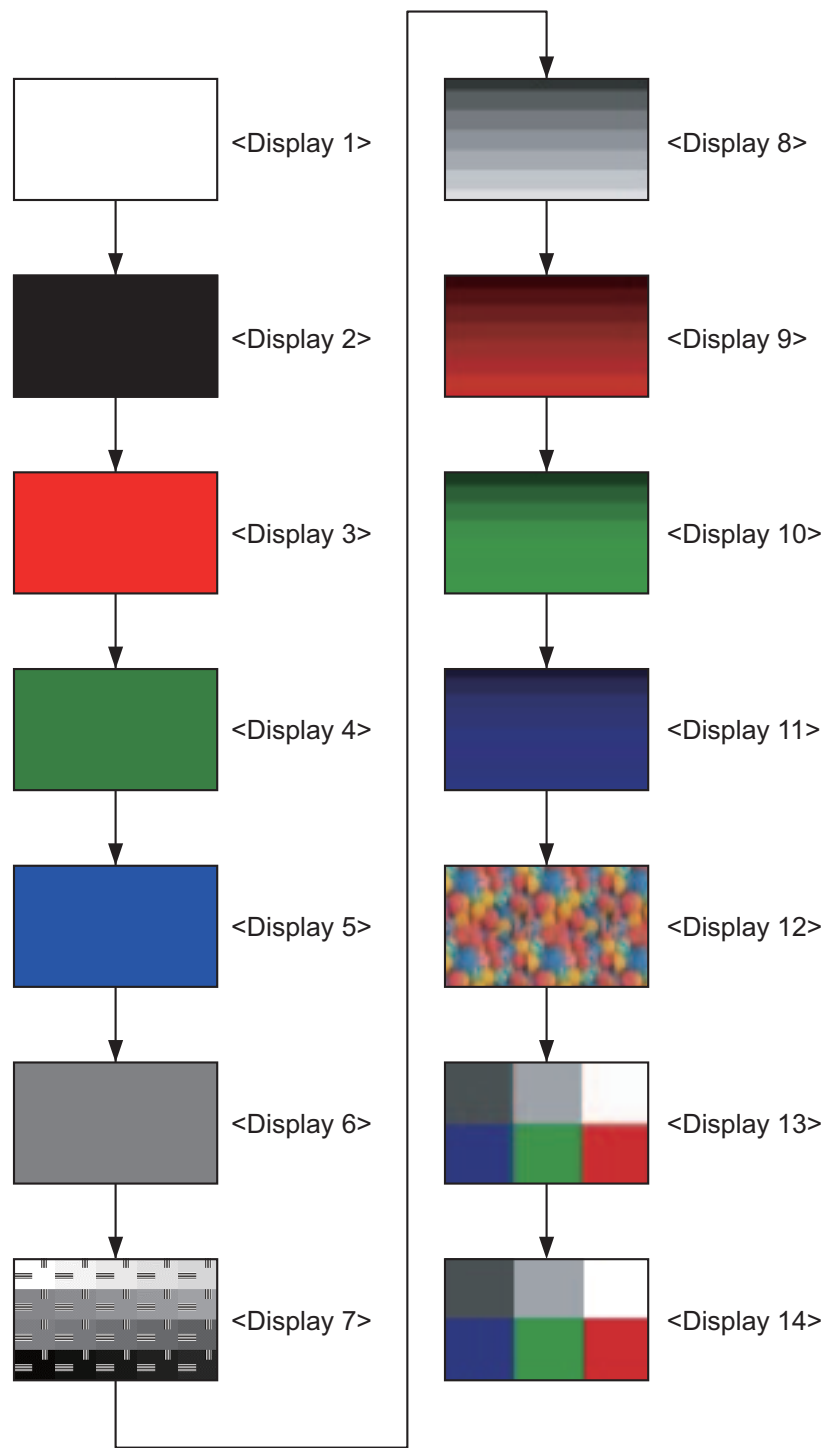

Fig. 5-5
- (1) Press the [1], and then the [2] key in the initial state of maintenance mode.
- (2) Each press of the [^] key cycles through the displays as shown in Fig. 5-5. Also, pressing the [v] key returns the LCD display to the previous state. Pressing the [^] key at the end of display returns the display to Display 1.
- (3) When you press the [X] key, the machine returns to the initial state of maintenance mode, regardless of the display status.